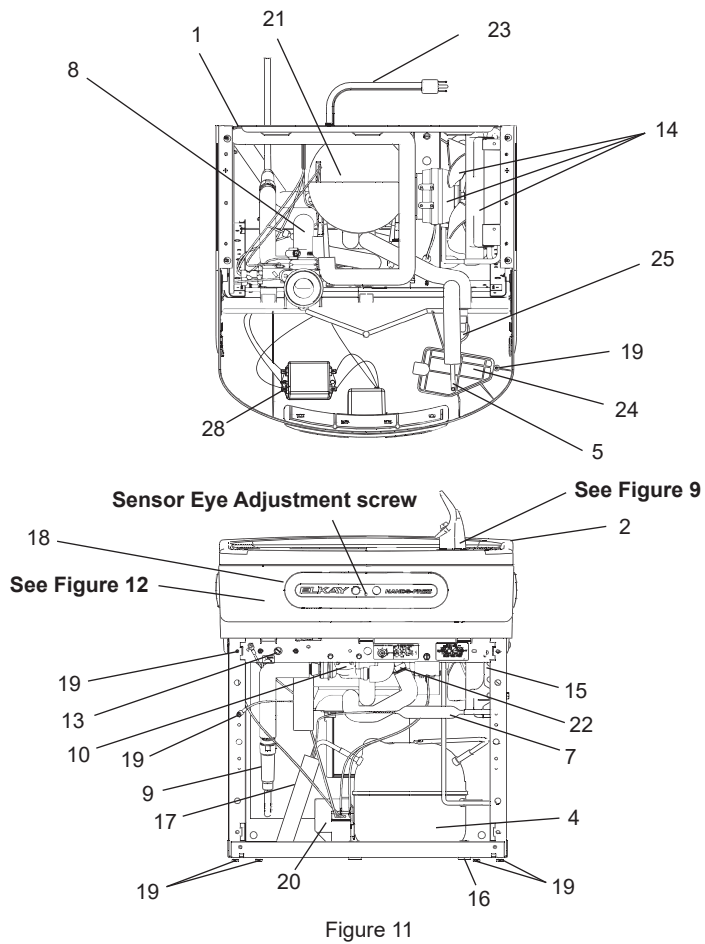

Figure 11
- Bubbler:** To remove the bubbler, first disconnect the power supply. The underside of the bubbler can be reached through the access panel (Item 25, Fig 11) on the underside of the upper shroud. Remove the access panel by removing the retaining screw. To remove the bubbler, loosen locknut from the underside of the bubbler and remove the tubing from the quick connect fitting per the Operation Of Quick Connect Fittings section in the General Instructions. After servicing, replace the access panel and retaining screw.